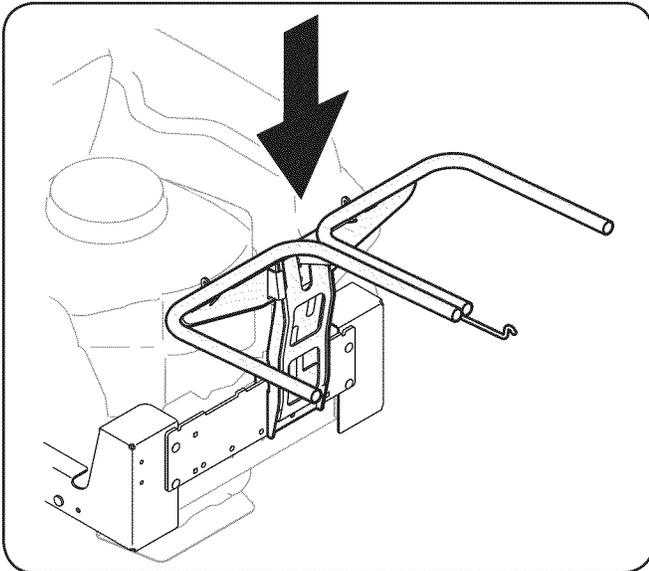

Figure 4-5
2. Install the bagger hanger assembly onto the mounting assembly on the tractor by hooking it over the hitch plate as in Fig. 4-5.